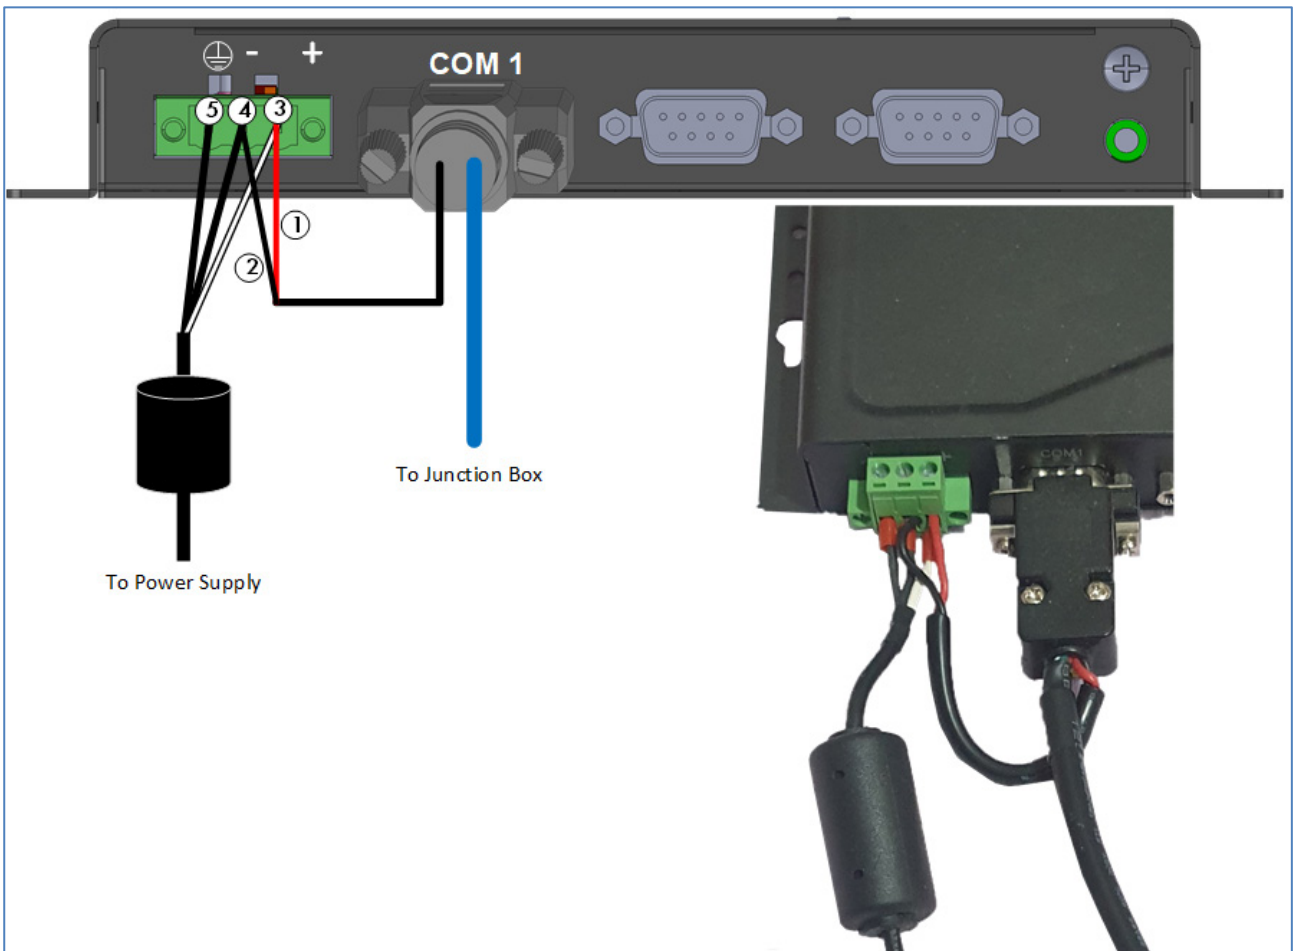
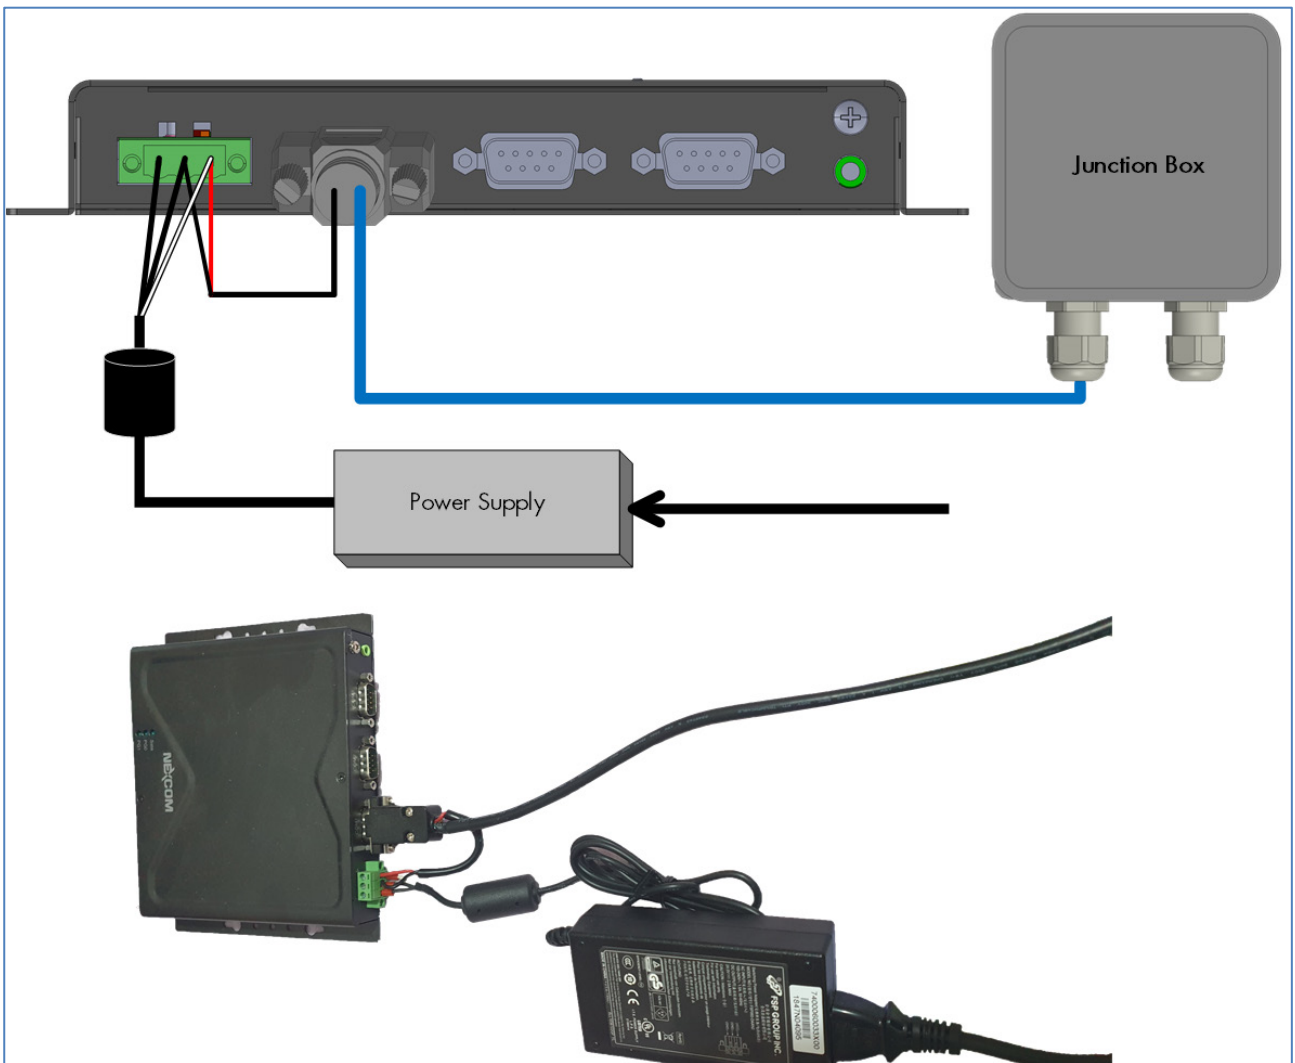

Figure 4: Junction Box Wiring to CommBox
Figure 5: Power Supply - CommBox - Junction Box Setup
2. Insert the two wires coming from the Junction Box cable into the ports (see Figure 4 and Figure 5).
\*These wires come preconnected to the CommBox. In the event that they need to be reattached, place the white cable (#3) in the port as shown in Figure 4. Place both black cables into the ports as shown in Figure 4; either cable can be placed in either port.